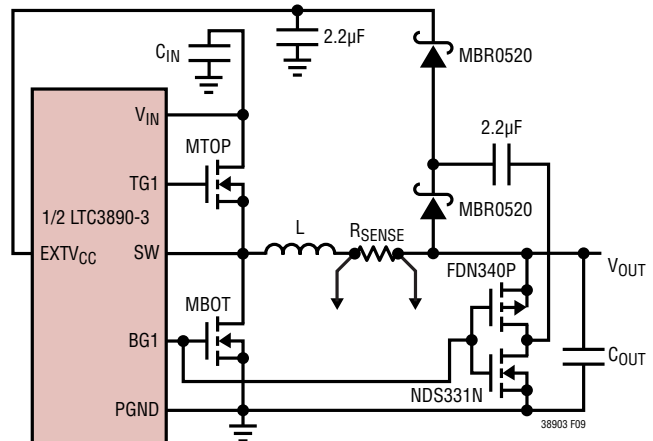

Figure 9. Capacitive Charge Pump for EXT_VCC
4. EXT_VCC Connected to an Output-Derived Boost Network. For 3.3V and other low voltage regulators, efficiency gains can still be realized by connecting EXT_VCC to an output-derived voltage that has been boosted to greater than 4.7V. This can be done with the capacitive charge pump shown in Figure 9. Ensure that EXT_VCC < V_{IN}.